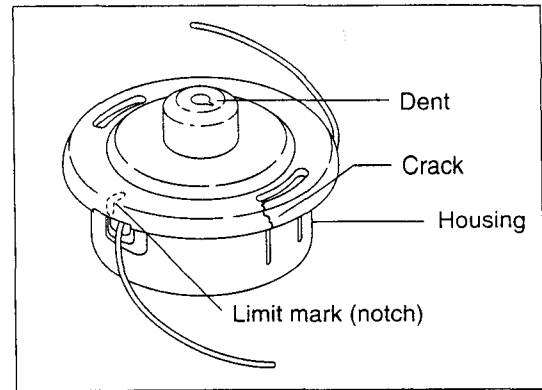

Fig. 19
2. Check the nylon cutting head carefully before each use. If you notice any of following, replace the worn or damaged parts with new ones immediately (Fig. 19):